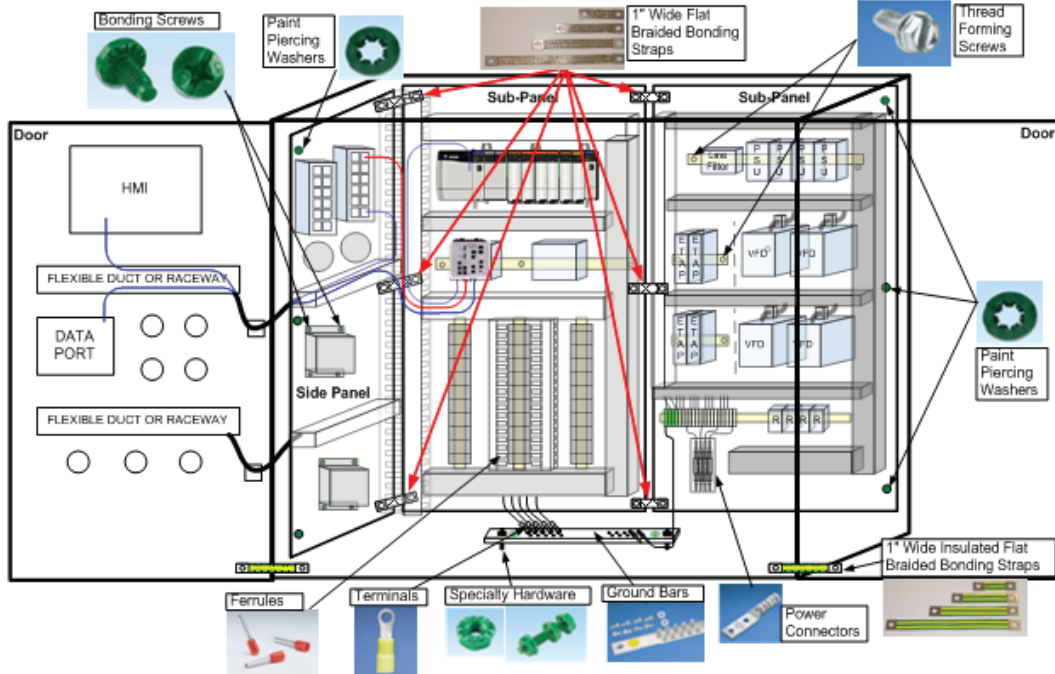

Figure 4.3-21. Schematic Diagram of Control Panel Grounding and Bonding
**Control Panel Grounding.** Three concepts of best practice control panel layout and design (see Figure 4.3-21) for this high frequency noise are: